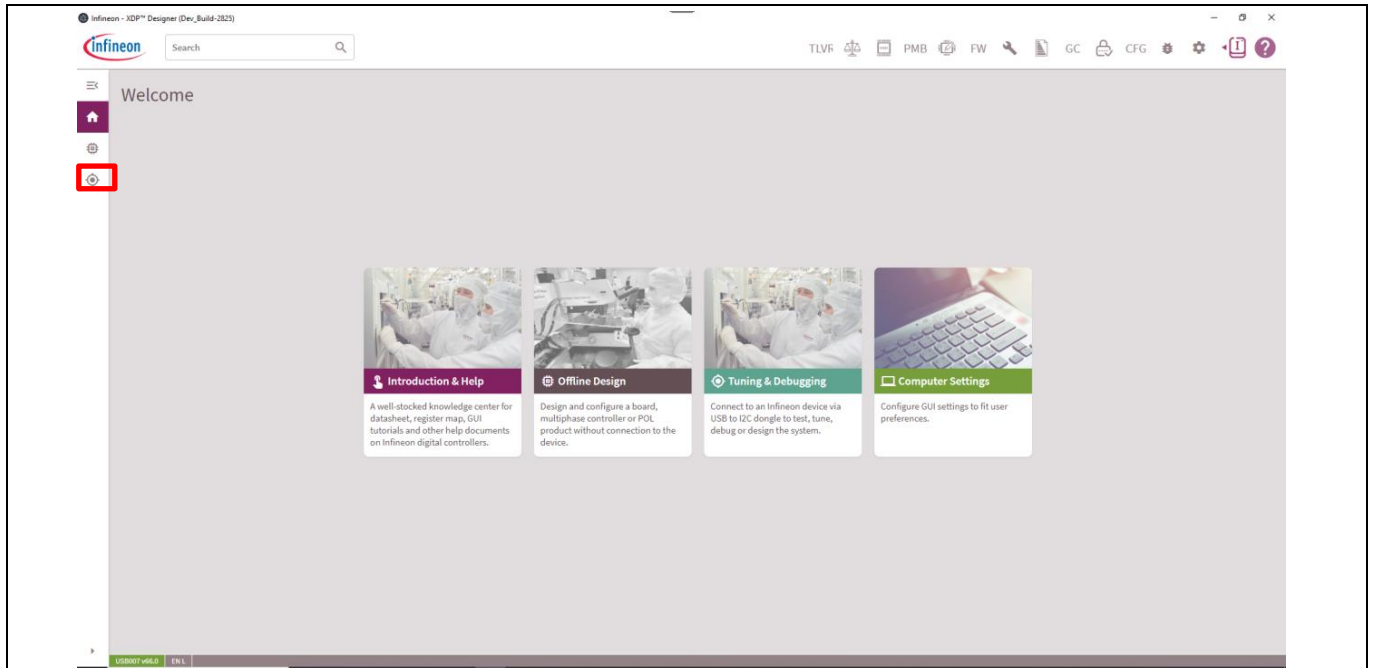
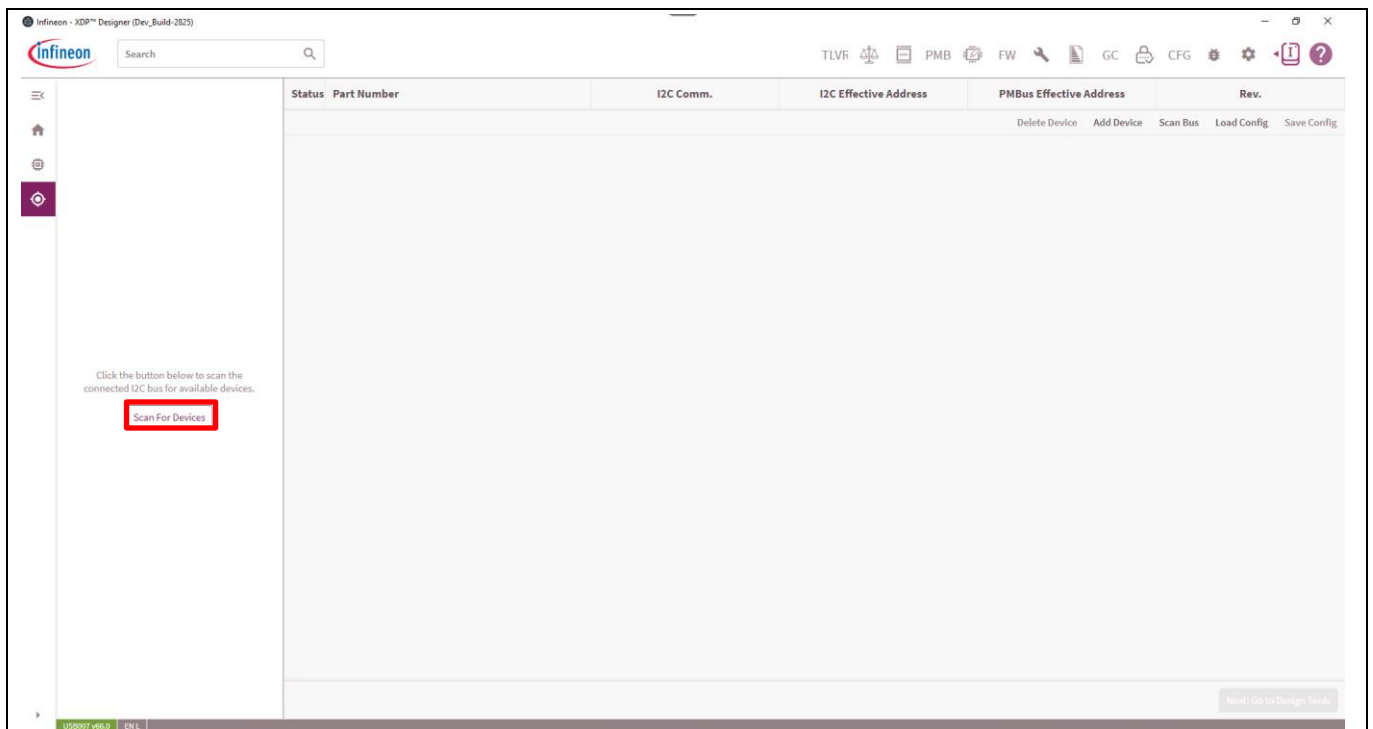

Figure 23 XDP700-002 detection
Figure 24 Scan For Devices to find XDP700-002
1. Click the button highlighted in Figure 23 and then wait for a few seconds to detect the device. If the device is not detected on its own, click on **Scan For Devices**, as shown in Figure 24.